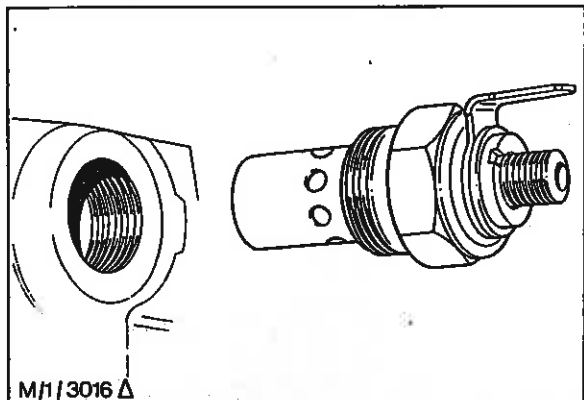

Fig. 11 - Removing/Replacing Thermostart Element
3. Unscrew the element from the intake manifold and fit a protective cap to the element and the manifold (Fig. 11).